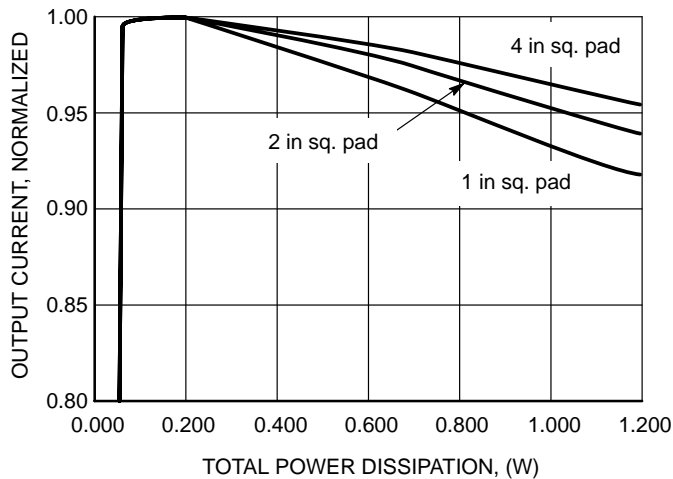

Figure 5. Current Regulation vs. Total Power Dissipation
10. Refer to Figure 5 to check the output current drop due to the calculated power dissipation. If desired, compensate it by adjusting the value of R_{ext} .